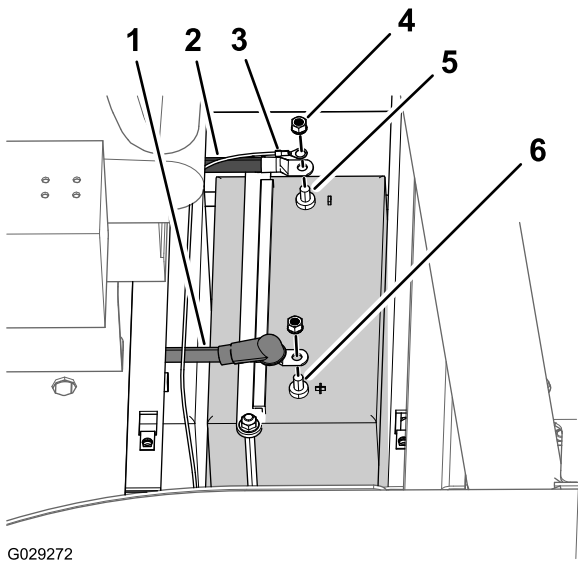

Figure 2
5. Remove the lock-washer nut (3/8 inch) securing the negative-battery cable and ring terminal to the negative stud of the battery and remove the cables from the battery (Figure 2).
- Move back the insulator boot and remove the lock-washer nut (3/8 inch) securing the positive-battery cable to the positive stud of the battery and remove the cable from the battery (Figure 2).